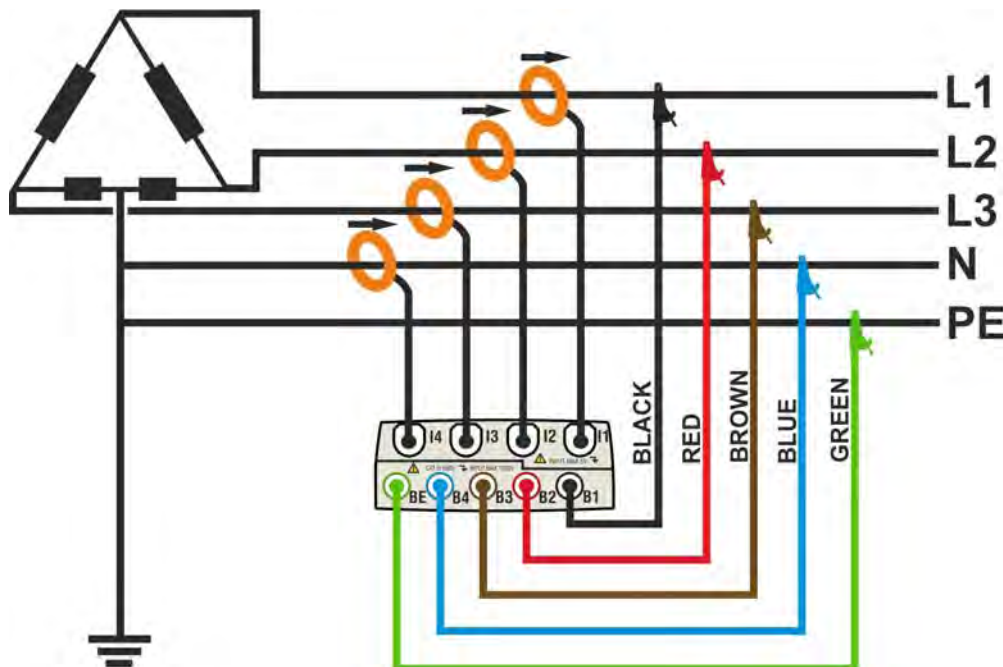

Fig. 138: Meter connection in a three phase 3PHL system – ENG type
2. Connect voltage test leads on Phases L1, L2, L3, N and PE cables considering the colours as shown in Fig. 138. **Verify the result “123” at display relative to a correct phase sequence indication** (see § 5.2.1) and perform the corrections if necessary.
3. Connect the transducer current clamps on Phase L1, L2, L3 and N cables as shown in Fig. 138 respecting the clamp's arrow direction indicating the current standard sequence from generator to load. **On Real Time Values' section screens (selecting a 3 wire system preliminarily) always verify the positive value of Active Power and the power factor relative to load which should be normally inductive** before starting a recording. Reverse the clamp by 180 degrees on cables in case of negative readings.